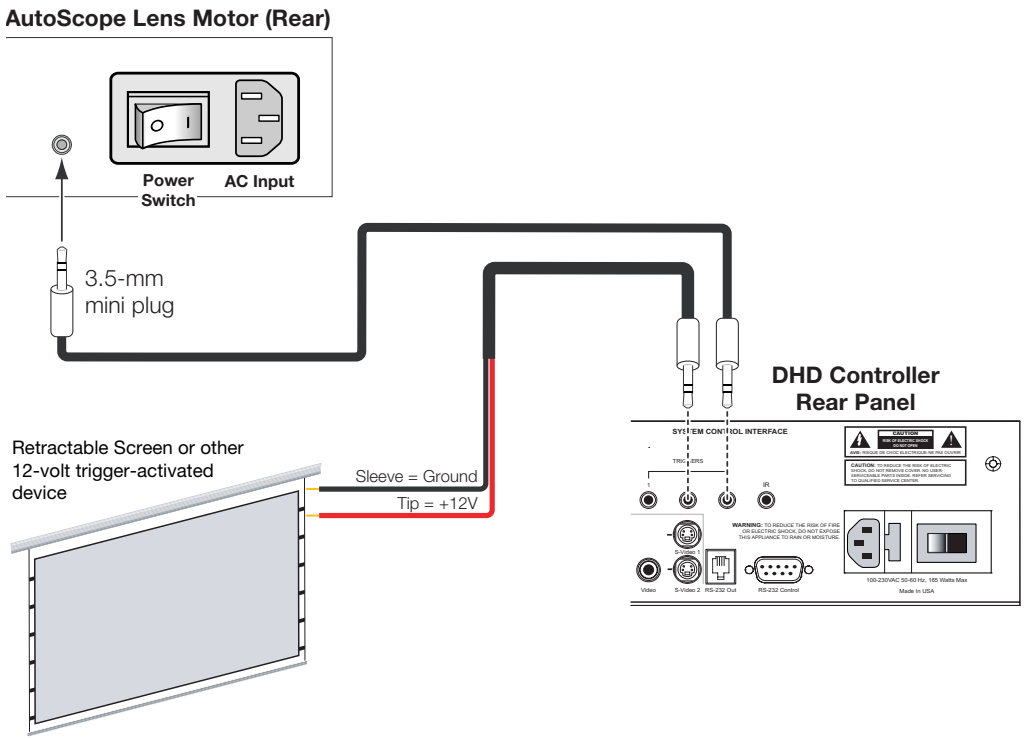

Figure 3-14. Connecting 12-Volt Trigger Outputs
If your VX-44d/-55d is equipped with a CineWide with AutoScope system, connect the AutoScope lens motor to a 12-volt trigger output on the DHD Controller; see Figure 3-14.
3. If this is an AutoScope-equipped projector, turn on the main power switch at the rear of the AutoScope lens motor. The lens motor power switch is located next to the AC input (see Figure 3-14).